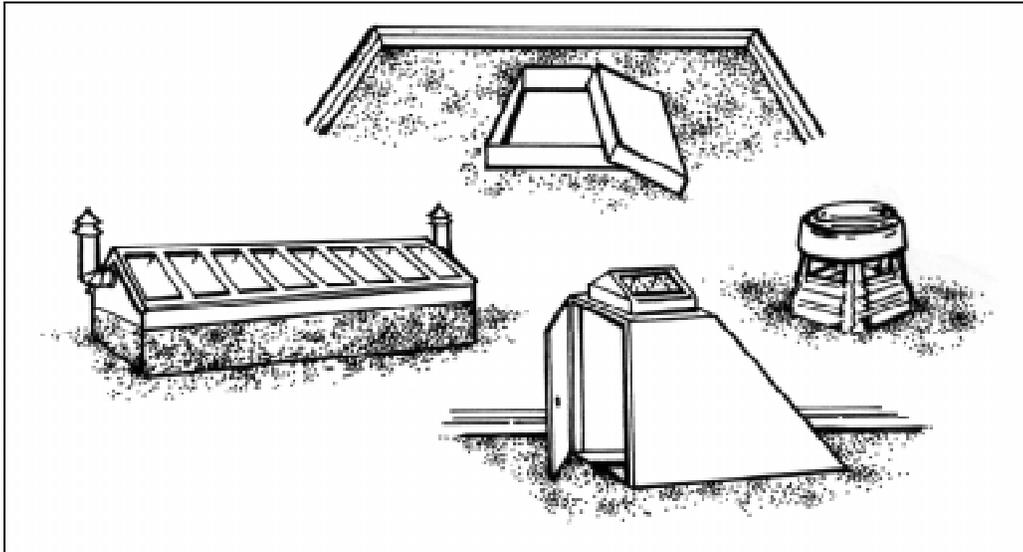

Figure 8-8. Roof openings
- **Installed roof openings.** Be aware that a building can contain several types of roof openings: skylights, scuttle hatches, stairways, and ventilators (Figure 8-8). You can easily force most of these open without damaging the roof. If possible, use these openings to save time.